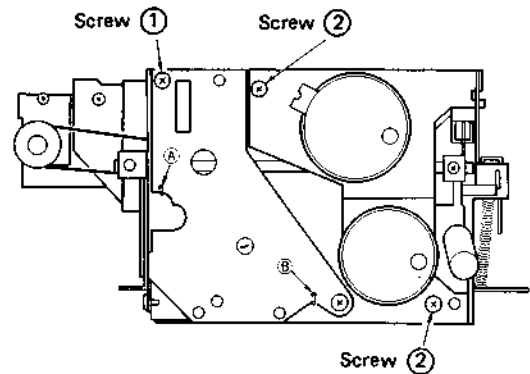

Fig. 6
- 1) Remove the Inter connect P.C. Board and play solenoid as described in procedure 2 above, and then take off 2 springs at points A and B shown in Fig. 6.
- 2) To remove the flywheel, undo 2 screws ① shown in Fig. 6.
- 2) To remove the motor holder, undo 2 screws ② shown in Fig. 6.